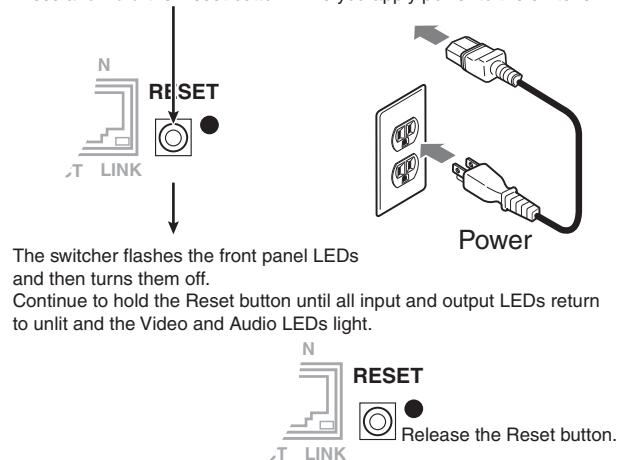

Figure 3-68 — Hard reset
2. Press and **hold** the Reset button on the rear panel **while** you apply AC power to the switcher (figure 3-68).